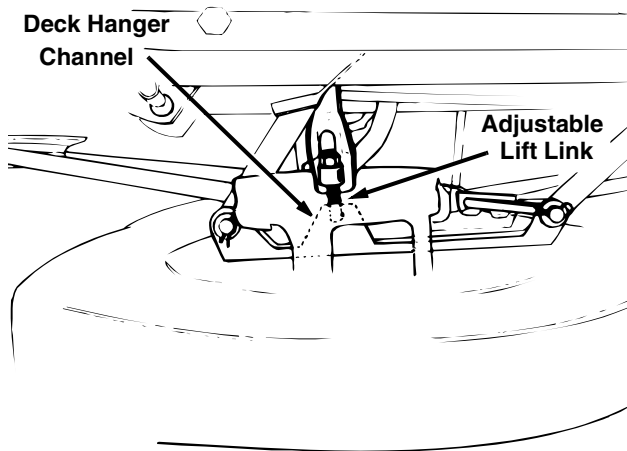

Figure 8
2. Pull the adjustable lift link out of the deck hanger channel. See Figure 8. Turn the adjustable lift link up or down as necessary to level the deck. Usually only one or two turns are needed.